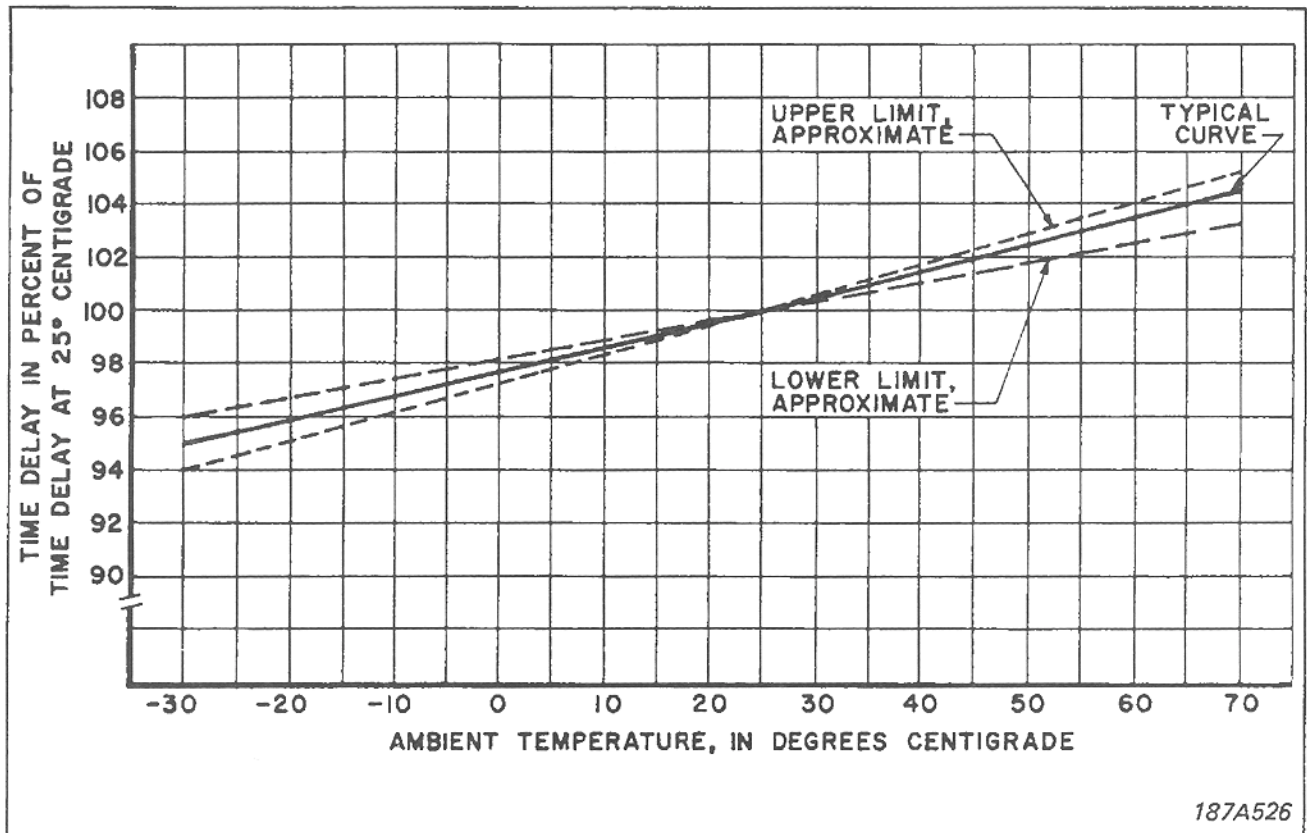

Fig. 4. Timing Variation with temperature changes.
Changes in ambient temperature cause changes in time delay. This variation in time delay is a direct function of capacitance change with temperature. Typical variation of time delay with temperature is shown in Figure 4.
2. Check the reference voltage circuit. This is done by measuring the d-c voltage across the silicon power regulator, Z. Connect the d-c voltmeter positive terminal to the rear terminal of R_S and the negative terminal to relay terminal 8. Apply rated voltage per the test circuit diagram, Figure 4. The Zener voltage should be between 21.5 and 24.5 volts for 48/125 volt relays, and between 50 and 58 volts for 250 volt relays.